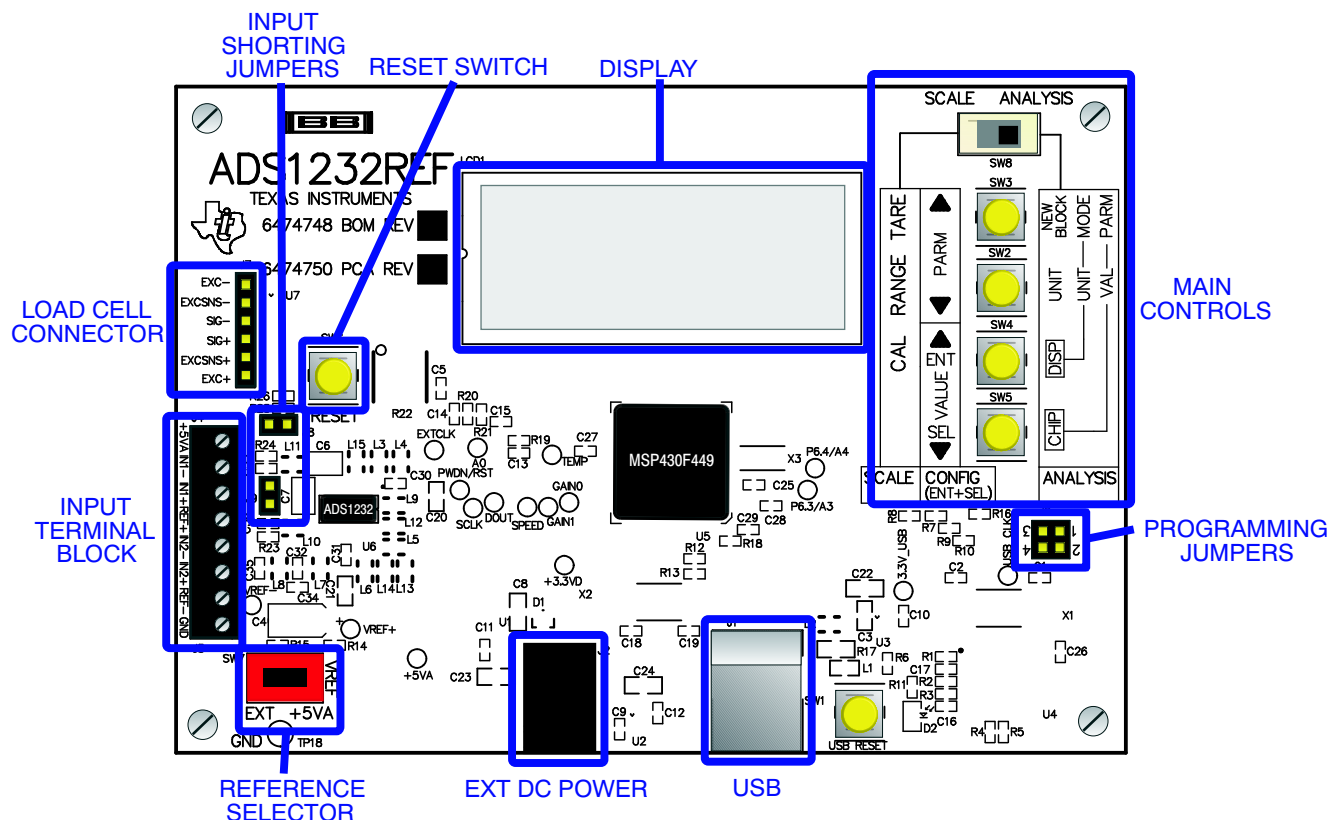

Figure 1. ADS1232REF Controls and Connectors
Figure 1 shows a diagram of the ADS1232REF.
1. Short jumpers J8 and J9. These jumpers are located very near to the terminal block, and are marked *Input Shorting Jumpers* in Figure 1.